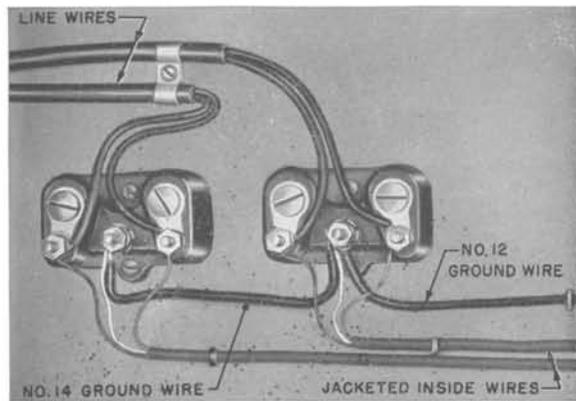

FIG. 8—INSTALLATION OF 111A PROTECTORS
6.02 Terminate line and inside wires on protectors so that the ring conductors (red or single tracer wires) shall be connected to the right-hand side of the protector (on ceilings the right-hand side as viewed from the inside wiring end of the protector). (See Figs. 8 through 10.)